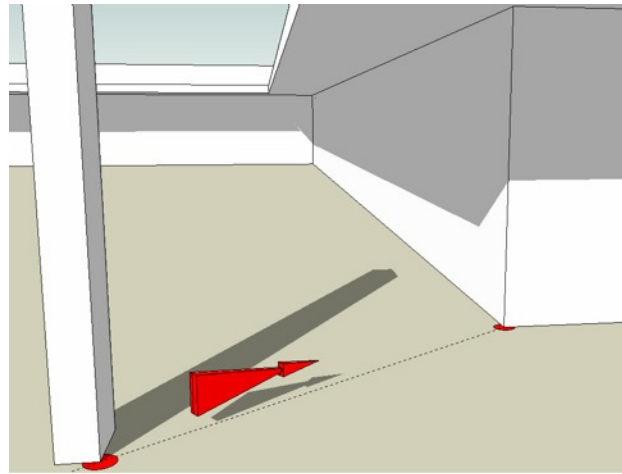

Figure 36. Moving the pillar into position
- Click on the small house icon to show what components are currently in the model. Locate 'pillar 1' and insert the pillar into the model close to the corner of the building as shown in Figure 36.
- Use **MOVE** to move the pillar into its position at the corner of the building. Ensure that the rear corner of the pillar is chosen as the endpoint as shown in Figure 36.